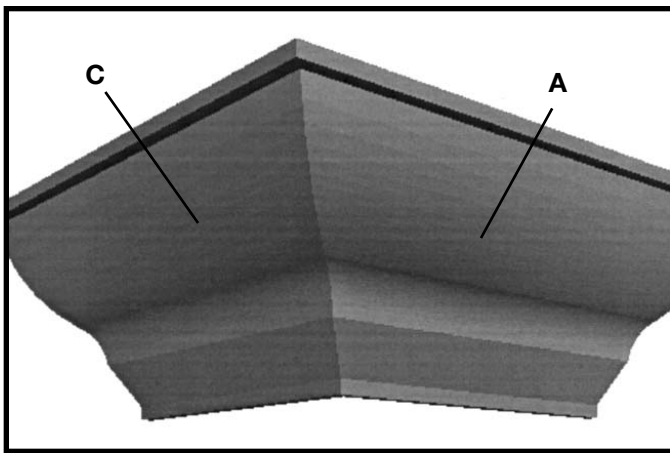

Fig. 43
6. Fig. 43 illustrates the two outside corner pieces.